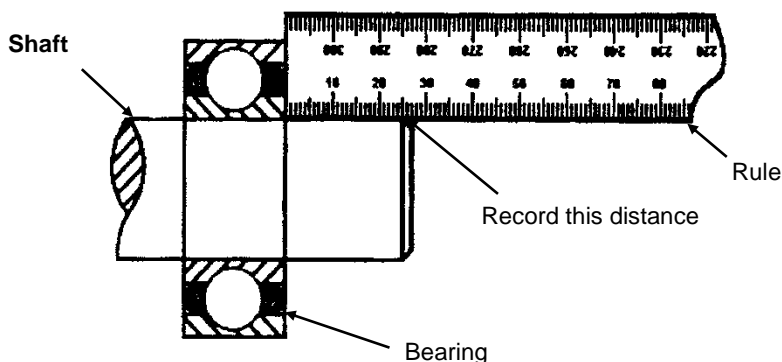

FIG 4.
A. Measure the position of the bearing on the shaft and record it. (Fig 4)